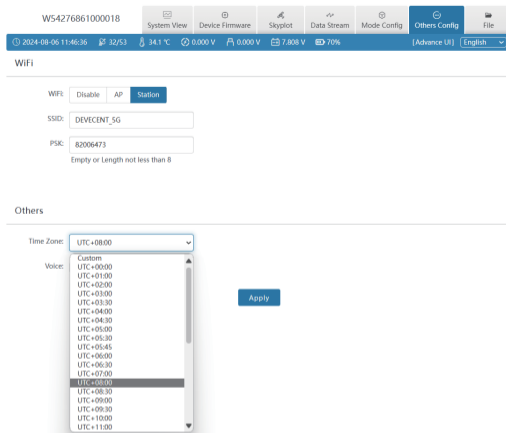

Figure 2.6-1
① WIFI: You can choose from three types: Disable/AP /Station, and you can set the WIFI name and password by yourself. When the device WIFI is used as the Station, you can access the network by entering the name and password of the external hotspot.
② Others: You can select the device's UTC time and set it according to your region. The interface is shown in Figure 2.6-1: